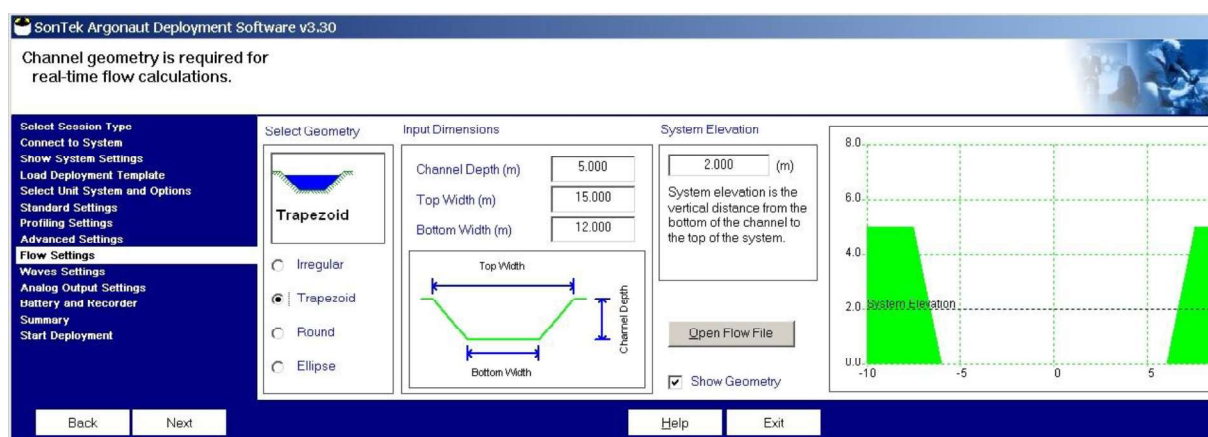

Figure 5-39. Deployment Software: Trapezoid Channel Geometry
- Trapezoid Channel Type (Figure 5-39)
Figure 5-39 shows the screen for a trapezoid channel type (normally a concrete-lined channel). The following parameters are specified in this screen. When all parameters are correctly specified, click **Next** to continue.
- Channel geometry can be loaded from an existing file using The **Open Flow File** button on the channel geometry screens (Figure 5-38 and Figure 5-39).